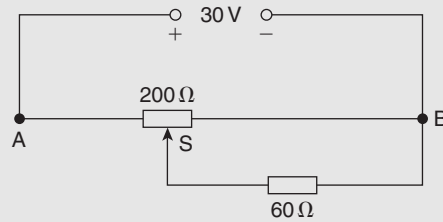

Figure 5.39
**Problem 15.** Calculate the volt drop across the  $60\ \Omega$  load in the circuit shown in Fig. 5.39 when the
Hence, the volt drop across the  $60\ \Omega$  load of Fig. 5.39 is  $8.18\text{V}$